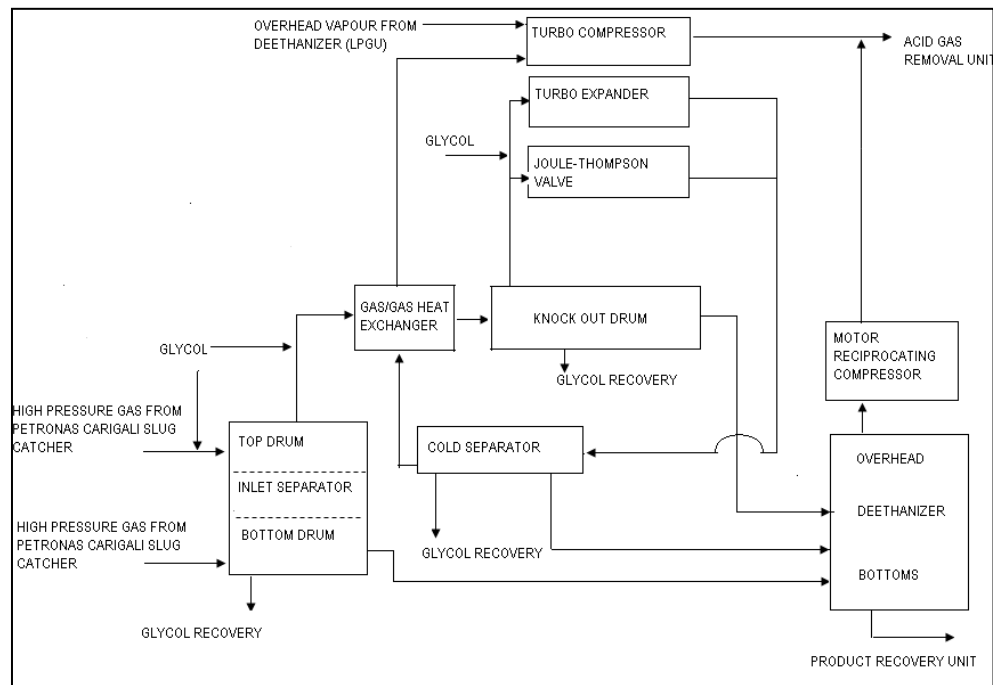

Figure 3: Dew Point Control Unit
- (c) Figure 3 shows a process flow diagram of Dew Point Control Unit (DPCU). The function of Dew Point Control Unit is to remove heavy hydrocarbon in natural gas. This process involves a decreasing in temperature.